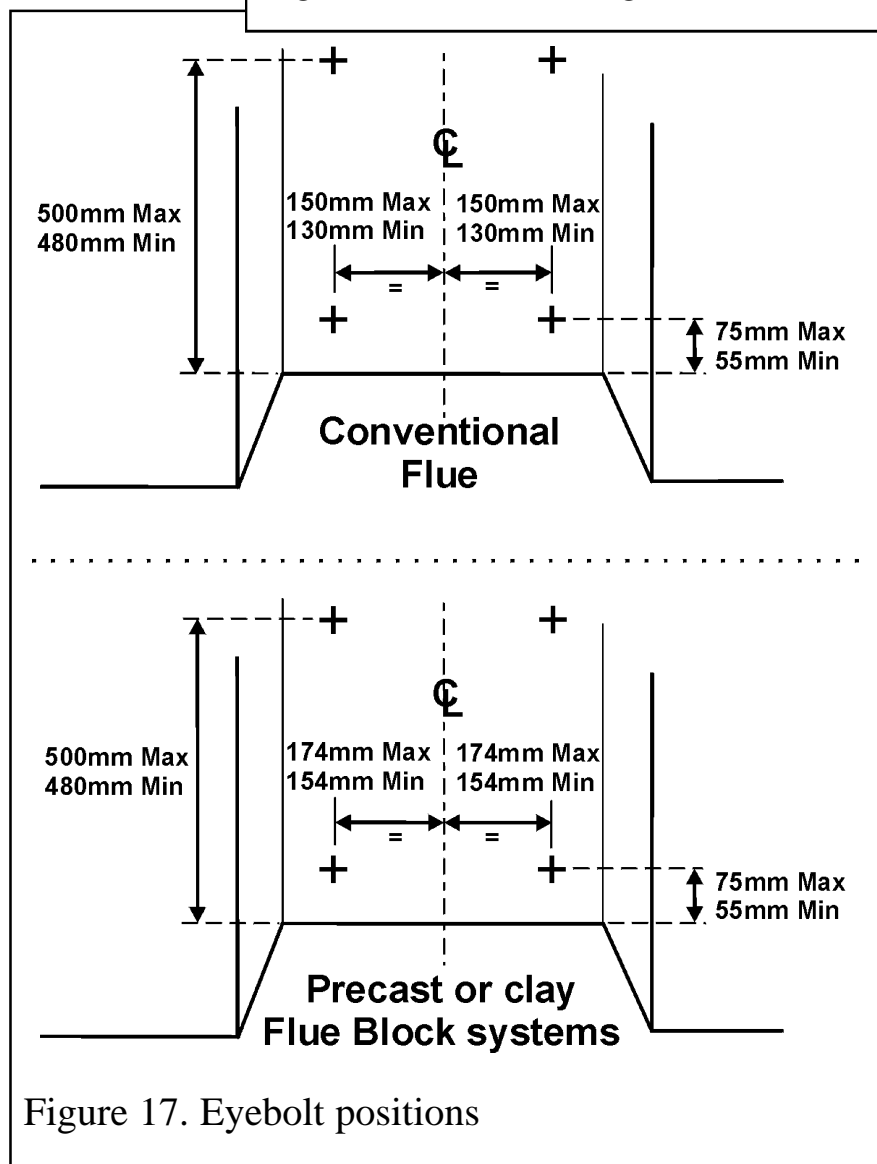

Figure 17. Eyebolt positions
2. Drill four holes in the rear wall of the fireplace for the eyebolt plugs. The holes should be drilled within the range of positions shown in figure 17 using a no.12 masonry drill. The holes should be equidistant each side of the centre line of the fireplace to ensure that the appliance finishes centrally in the opening when tension is applied to the cables.